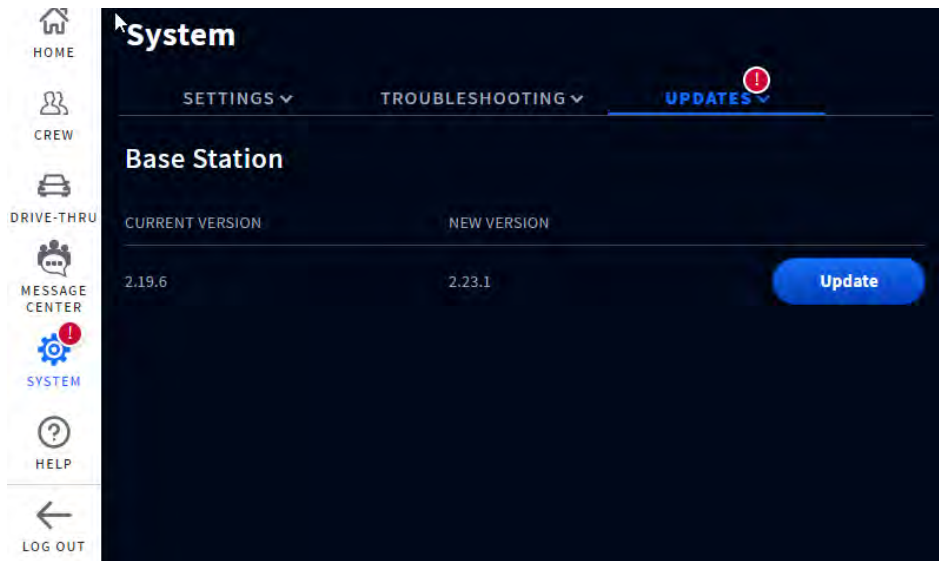

Fig. 6.4
4. Tap the blue Update button that appears on the right. See Fig. 6.4.